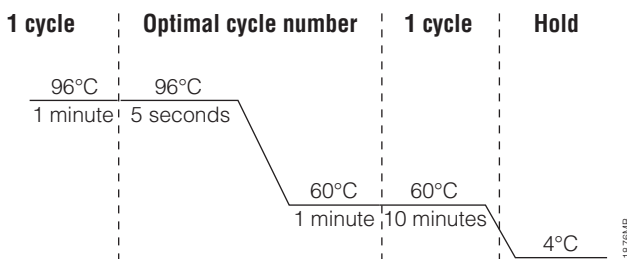

Figure 30. Thermal cycling protocol for the GeneAmp® PCR System 9700, Veriti® 96-Well Thermal Cycler and ProFlex™ PCR System.
2. Select and run the recommended protocol, which is provided below and in Figure 30. The total cycling time is approximately 1 hour.